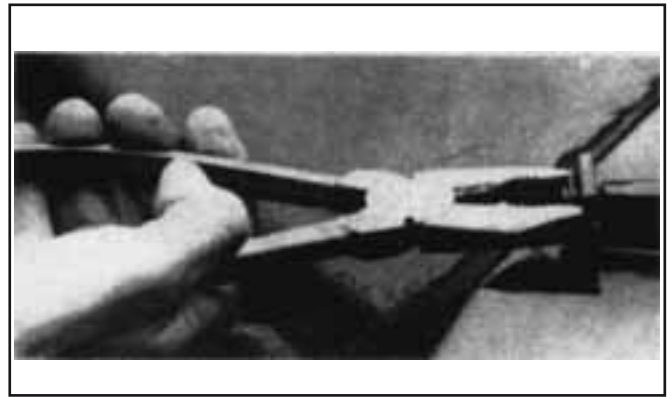

Fig. 4
5. Secure by clipping the “E” Clip into the groove on the pivot rod. *Fig. 4.*